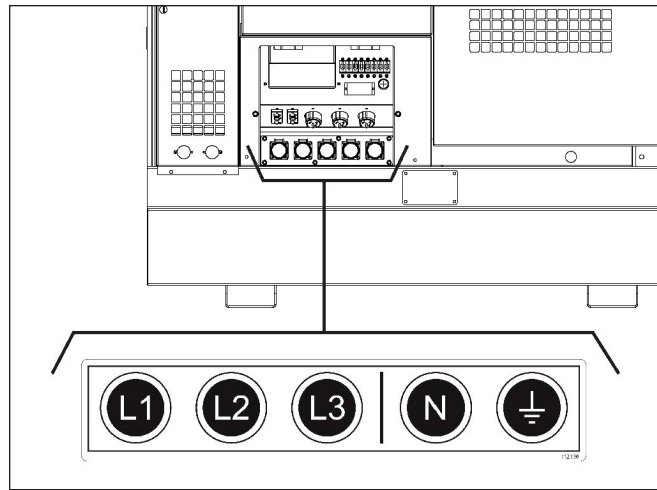

Figure A1
1. Connect the cam lock connectors from the load to the cam lock receptacles on the lower portion of the outlet panel on the unit. See Figure A1. Be sure to connect the load correctly. See **Connecting Loads**.